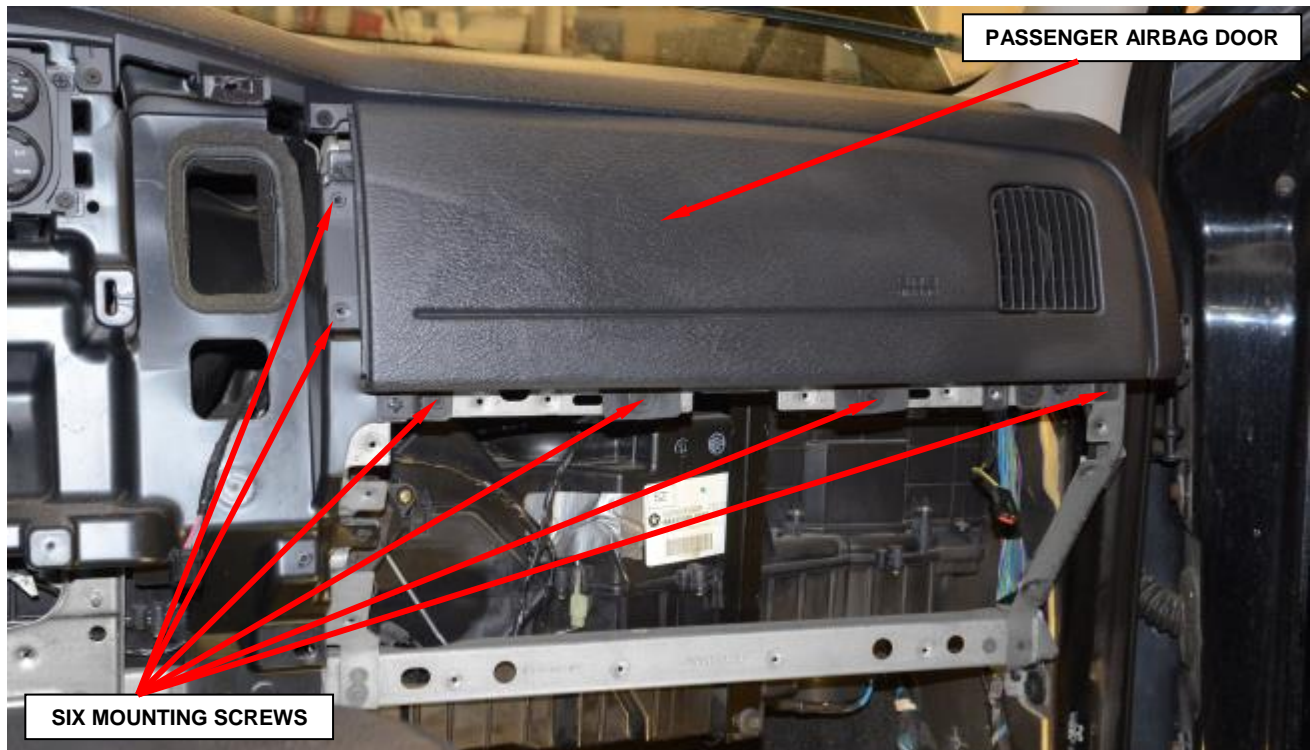

Figure 14 – Passenger Airbag Door Mounting Screws
12. Remove and save the six mounting screws that secure the inboard and lower flanges of the passenger airbag door to the instrument panel (Figure 14).
27. Install the six mounting screws that secure the inboard and lower flanges of the passenger airbag door to the instrument panel. Tighten the screws to 20 in. lbs. (2 N·m) (Figure 14).